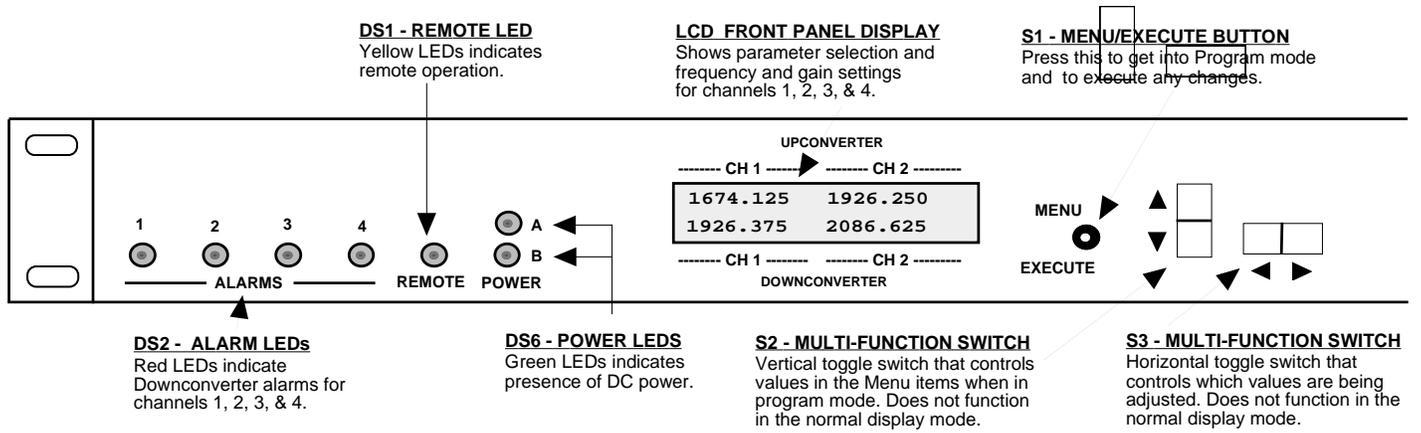

FIGURE 2.3 2417-4xx Front Panel Controls and Indicators
7. Be sure DS6 (green, DC Power, PSA, PSB) is on and DS2 (red, Alarm) is off (Figure 2.3).
6. Be sure DS6 (green, DC Power, PSA, PSB) is on and DS2 (red, Alarm) is off (Figure 2.3).
1. Menu/Execute - Any change to the programming of the unit must be initiated by pressing the Menu/Execute switch and completed by pressing the Menu/Execute switch (Figure 2.3).
2. Horizontal Switch - This switch is mounted so its movement is horizontal and moves the cursor left or right (Figure 2.3).
- a. During frequency, gain changes, the vertical movement will raise or lower the number in the direction of the arrows (Figure 2.3).
Alarm indications appear on the LEDs (See figure 2.3). An alarm condition will occur if any local oscillator phase lock loop (PLL) comes out of lock. The Remote LED will light when you select the Remote mode.